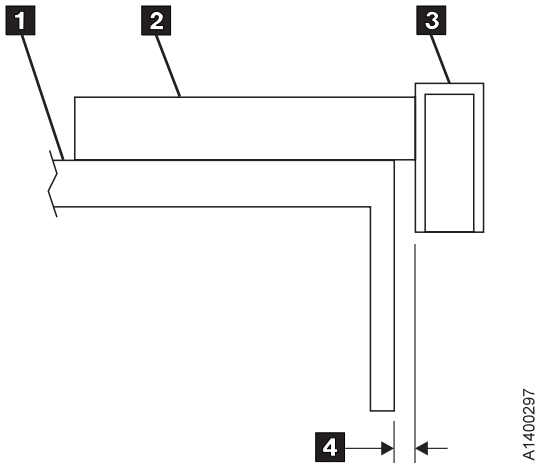

Figure 9-5. Side View of Model B11/E11/H11 Drive and ACF on Workbench
Note: See Figure 9-5 for safe placement of the drive and ACF, when the ACF is reattached to the drive for servicing the device. Ensure the drive **2** is placed on the work surface **1** to **avoid the risk of tipping forward or falling off the work surface 3** due to the added weight of the ACF.
- ___ 10. Go to step 3 on page 8-19 to install the ACF. Return here after completing the procedure. Remember to **not** exceed the maximum dimension of 38 mm (1.5 in.) **4**, as shown in Figure 9-5.